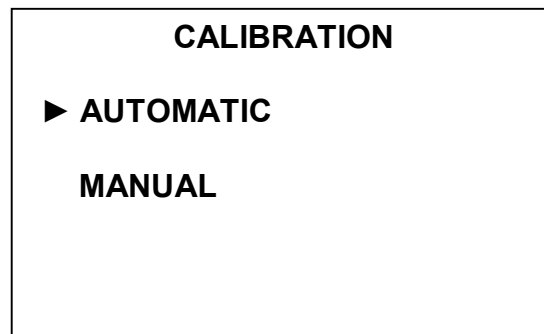

Fig. 2.15
- 1 Press the key . The display shown in Fig. 2.15 shall come up.
1 Analyzer calibration against CGM may be cancelled prior to operation 4, depressing the key . The analyzer shall go over to the display shown in Fig. 2.15 and save calibration coefficient values of the previous calibration.